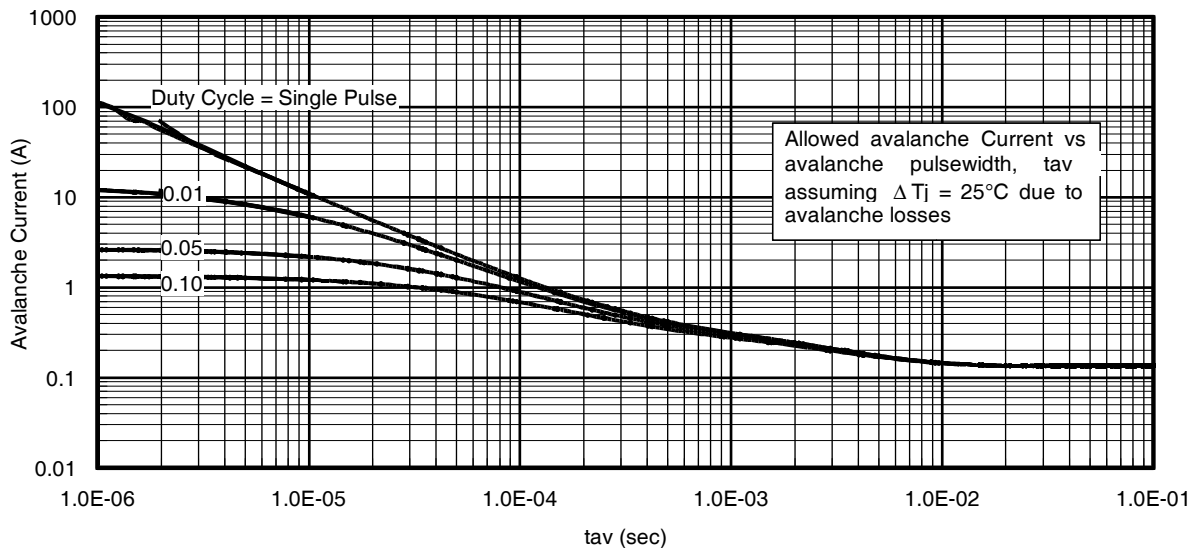

Fig 14. Typical Avalanche Current Vs. Pulsewidth
- ① Repetitive rating; pulse width limited by max. junction temperature.
② Starting $T_J = 25^\circ\text{C}$, $L = 1.62mH$, $R_G = 25\Omega$, $I_{AS} = 11A$.
③ Pulse width $\leq 400\mu s$; duty cycle $\leq 2\%$.
④ R_{θ} is measured at T_J of approximately 90°C .
⑤ Limited by T_{jmax} . See Figs. 14, 15, 17a, 17b for repetitive avalanche information.
Notes on Repetitive Avalanche Curves , Figures 14, 15:
7. ΔT = Allowable rise in junction temperature, not to exceed T_{jmax} (assumed as 25°C in Figure 14, 15).